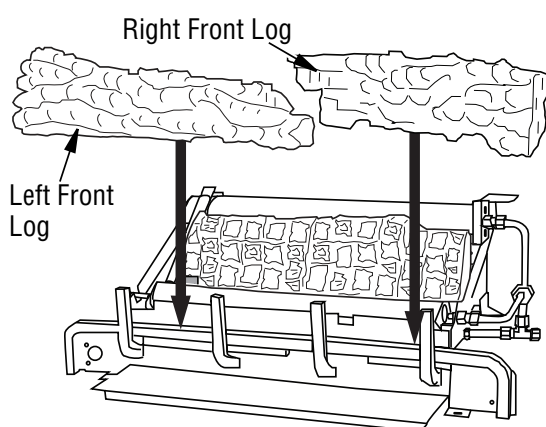

Figure 39 - Installing Left/Right Front Logs
- Place front left (18" D-064, 24" D-057 & 30" D-038) and front right (18" D-065, 24" D-058 & 30" D-039) logs as shown in **Figure 39**.